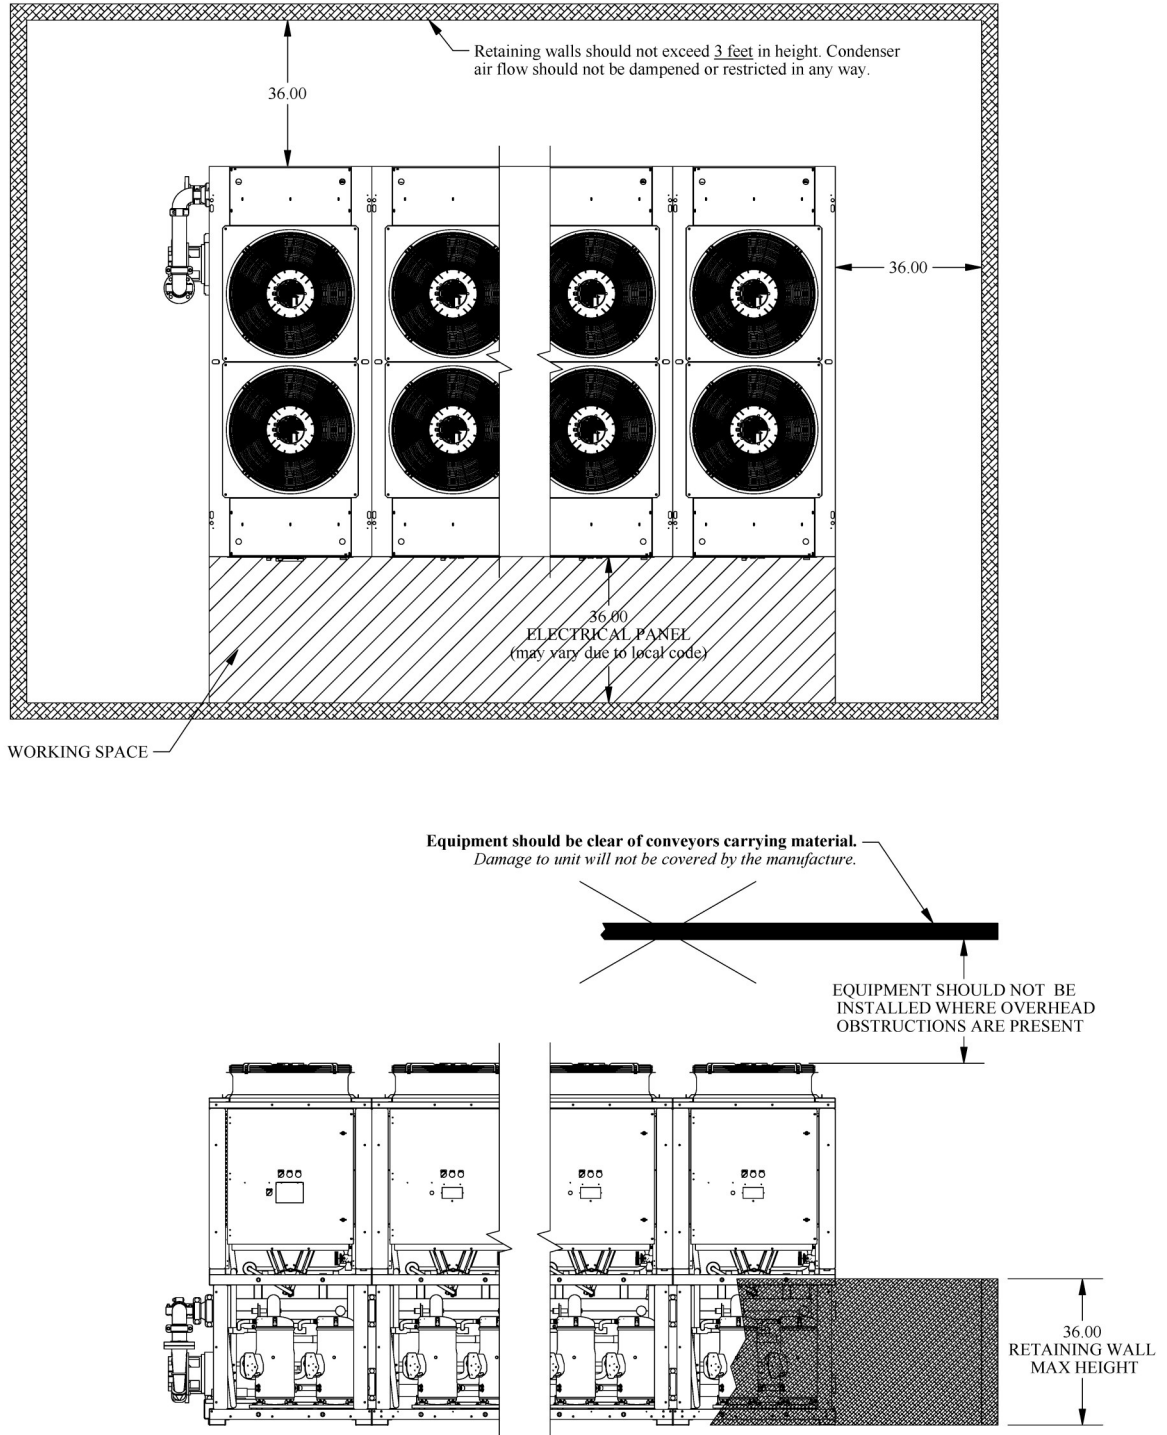

Figure 10, Equipment Clearance and Working Space
- i. **Chiller Operation:** Chiller Start Ups should only be done by a competent and qualified refrigeration technician or accompanied by an American GeoThermal Service Technician. All chiller modules should reside in the auto modes at all times unless otherwise advised by qualified person. Surrounding objects should be clear of the equipment and should not inhibit air flow in anyway - refer to the chiller installation and clearance diagram in figure 10 for installation guidelines. Turn the “Operation Switch” located on the master control box into the on position - the fluid pump should then begin flowing fluid throughout the fluid circuit. To confirm fluid flow, press the down arrow on the user interface and refer